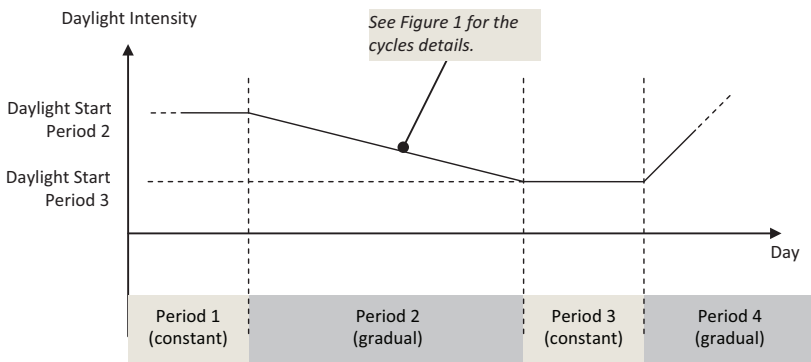

Figure 2 : Variation of daylight intensity over the periods
- **Gradual:** The Daylight intensity is automatically adjusted during the period. A linear regression is applied as shown in *Figure 2*.